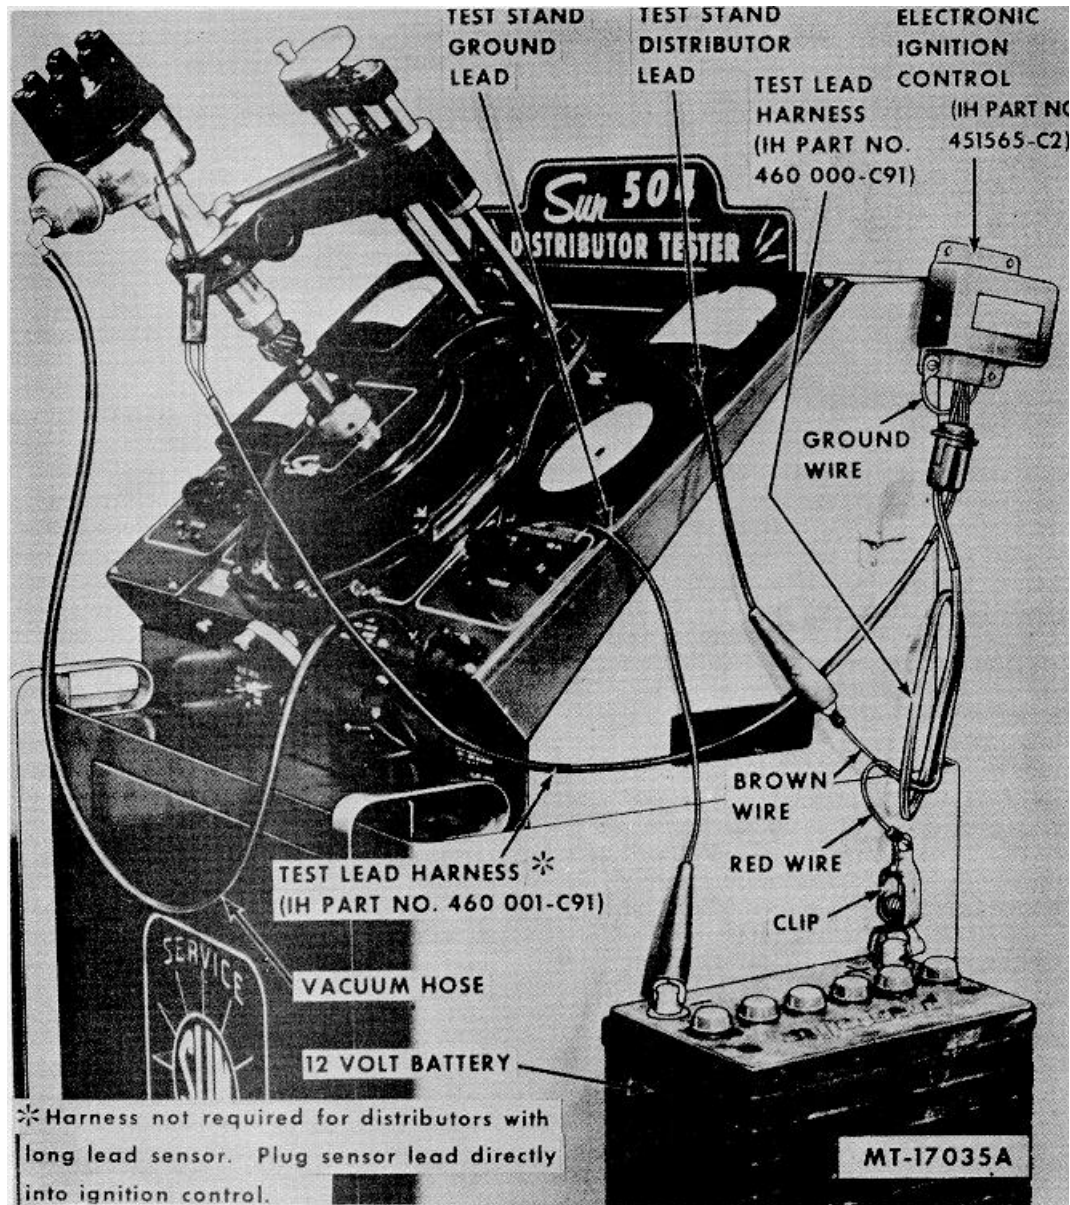

Fig. 12 Distributor Mounted in Test Stand.
In order to test the breakerless distributor on the test stand, an electronic ignition control (same as used on vehicle), a 12-volt battery and test lead harness(es) must be connected to the distributor and the test stand as shown in Fig. 12. The required parts (available through regular parts channels) are:
Harness, Test Lead (control to distributor) (See *, Fig. 12)	460001-C91
Prepare test stand and distributor as outlined below (refer to Fig. 12).
2. Following color code, connect end of test lead harness 460001-C91 (identified by blue and yellow wires) to terminal connector of electronic ignition control. (See *, Fig. 12)
6. Connect molded two-way connector of test lead harness 460001-C91 (identified by blue and yellow wires) to sensor lead of distributor. (See *, Fig. 12)